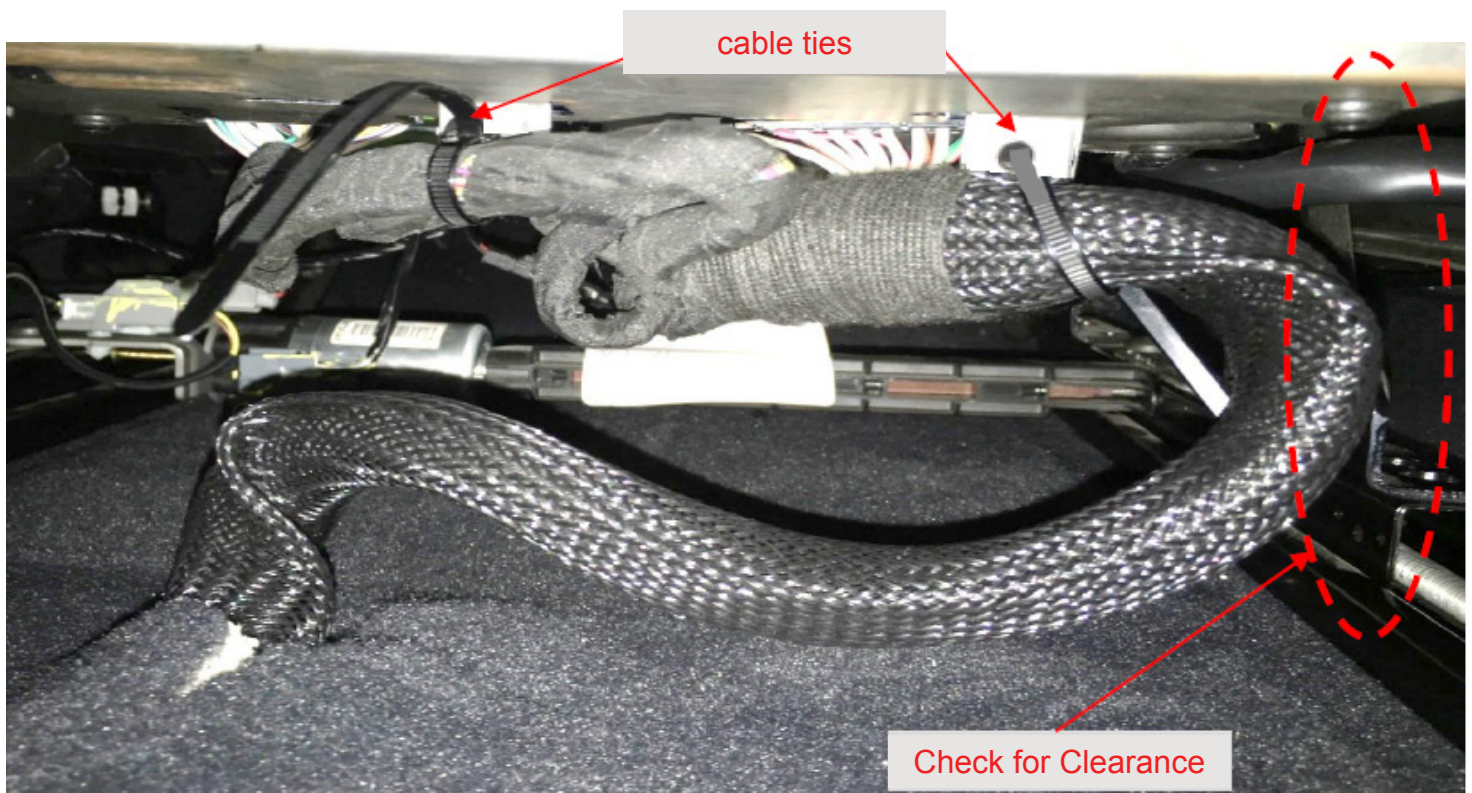

fig. 6
4. Check routing to ensure the bundle is not too close to the outer seat rail where it can get caught during movement of the seat. Tighten remaining cable tie and trim excess cable tie material.- When harness is positioned correctly, attach one additional cable tie to each seat frame tab and secure to harness for extra support. Trim and discard extra cable tie material. (fig.6)